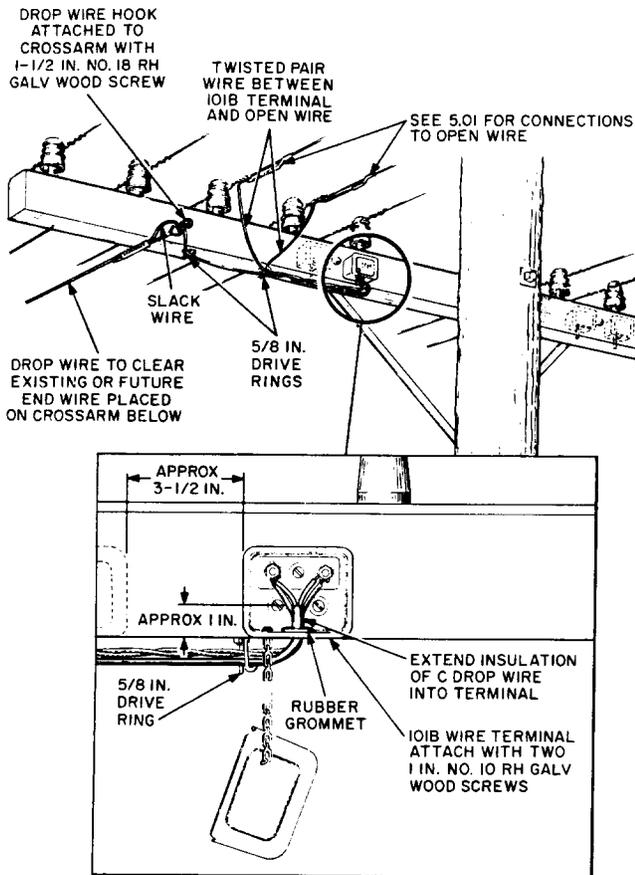

Fig. 1—Where Drop Wire is Distributed From Crossarms Other Than DE-Type
4.10 The wiring arrangement on crossarms equipped with insulator pins is shown in Fig. 1 and 2.